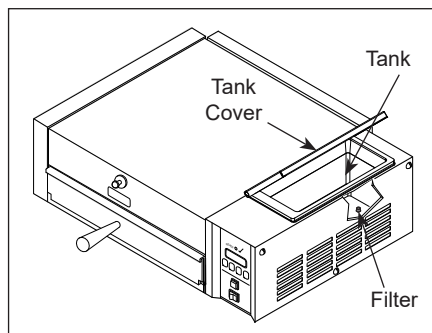

Figure 4. Filling Water Tank
5. Open the Tank Cover on top of the unit (Figure 4).